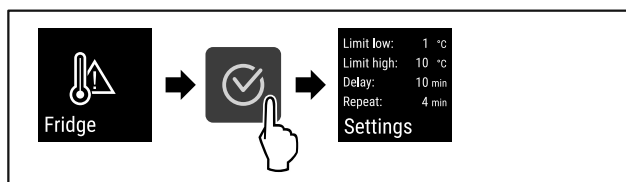

Fig. 136
- ▶ Complete steps (see Fig. 136).